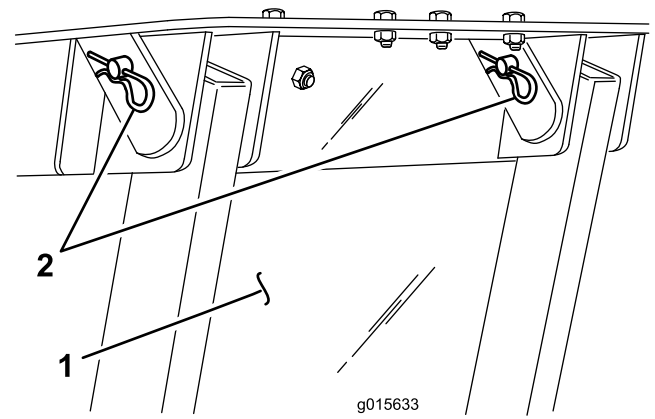

Figure 20
4. Secure the hopper to the frame with 2 welded mounting pins and hairpin cotters (Figure 20).
3. Slide the hopper assembly (hopper cover to rear) into the side frame while aligning the mounting holes in hopper with the holes in frame (Figure 20).